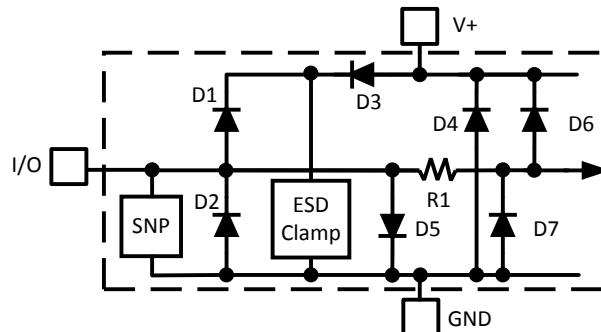

Figure 4. ESD Protection Input Structure
- (1) Absolute Maximum Ratings indicate limits beyond which damage to the device may occur. Operating Ratings indicate conditions for which the device is functional, but do not ensure performance limits. For ensured specifications and test conditions, see the Electrical Characteristics. The ensured specifications apply only for the test conditions listed. Some performance characteristics may degrade when the device is not operated under the listed test conditions.
- (2) All voltages are measured with respect to GND, unless otherwise noted.
- (3) When the input voltage (V_{IN}) at any pin exceeds the power supplies ($V_{IN} < GND$ or $V_{IN} > V_+$), the current at that pin should be limited to 5 mA. Parasitic components and/or ESD protection circuitry for the LM63's pins are shown in Figure 4 and Table 1. The nominal breakdown voltage of D3 is 6.5 V. Care should be taken not to forward bias the parasitic diode, D1, present on pins D+ and D-. Doing so by more than 50 mV may corrupt temperature measurements. An "X" means it exists in the circuit.
- (4) Thermal resistance junction-to-ambient when attached to a printed circuit board with 2 oz. foil is 168°C/W.
- (5) Human body model, 100 pF discharged through a 1.5 k Ω resistor. Machine model, 200 pF discharged directly into each pin. See Figure 4 and Table 1 for the ESD Protection Input Structure.
- (6) See the URL <http://www.ti.com/packaging> for other recommendations and methods of soldering surface mount devices.